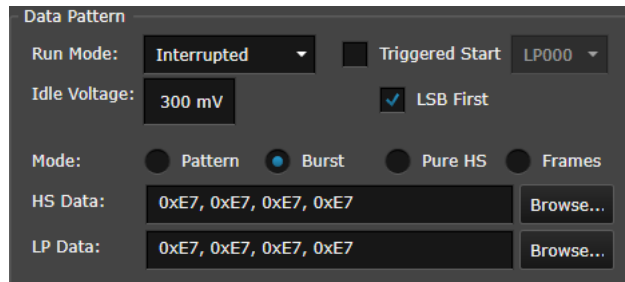

Figure 8 Different Modes of MIPI C-PHY Editor
The MIPI C-PHY Editor supports four different mode groups “Pattern”, “Burst”, “Pure HS” and “Frames”, which are as following (see Figure 8):
- Burst: It is a block of binary data, which are converted to MIPI C-PHY states, and is repeated infinitely. The burst block may contain either LP Data and HS Data both, pure LP data, or pure HS data, depending on the content of the data given for HS and LP. If either field of HS or LP data is blank (empty text box for that particular data type, see Figure 8), the software generates pure LP or HS data respectively. However, even if LP data entry is empty, the HS data are organized in a burst, surrounded by LP111 states, and a LP to HS transition, and a HS to LP transition. If Pure HS is selected, no LP transitions are included and all LP data are neglected. The files are loaded with the extension of '*.dat'